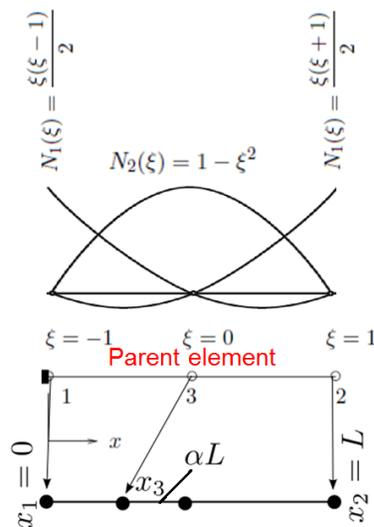

Figure 4: Second order element for 1D problems.
- 45 Points For second order bar element with constant E, Q and the internal node n_3 being in the center we have (cf. fig. 4),